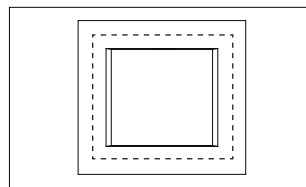

Figure 2
5. Place the lavatory on the support surface/countertop, ensuring the waste pipe is in a clear position and the lavatory in the desired spot. (Figure 2)